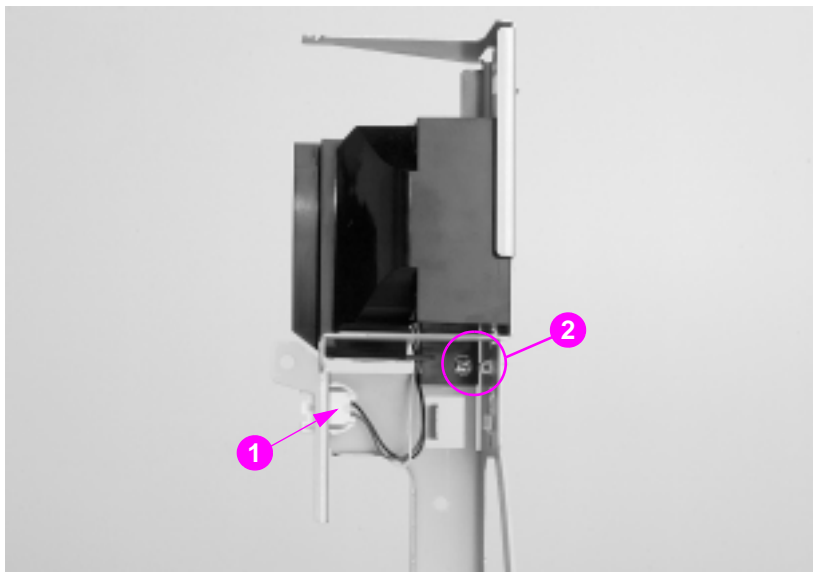

Figure 6-57 Left side fan removal and replacement (3 of 3)
- 6 Disconnect the cable shown in Figure 6-57 (callout 1).
- 7 Remove the screw from the black plastic cover and remove the fan casing shown in Figure 6-57 (callout 2).